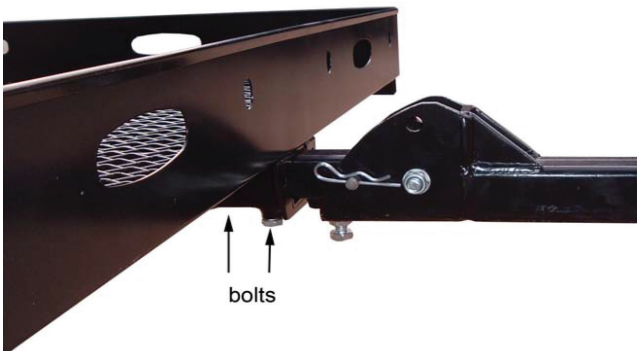

Figure 4-2
2. Insert four (4) lock bolts on the bottom of your carrier tube. Tighten bolts firm with a wrench. *See Figure 4-2.*